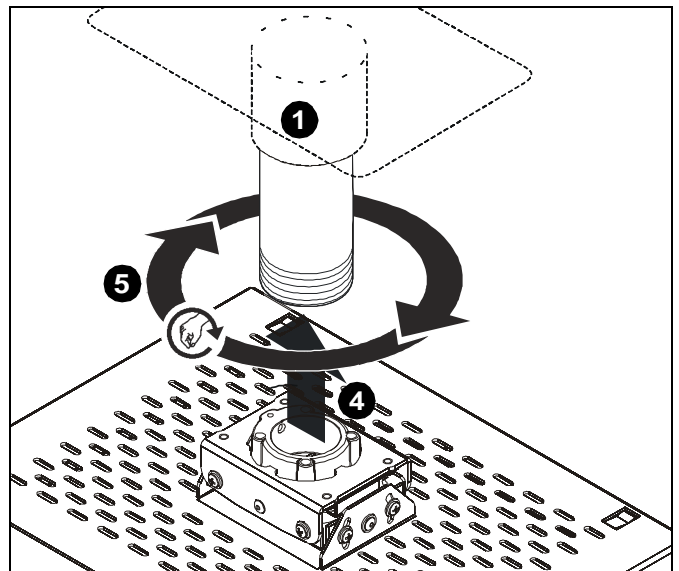

Figure 3
4. Align RPAX1 outer sleeve with end of NTP pipe. (See Figure 3)
5. Thread RPAX1 sleeve up onto pipe by turning clockwise until hand tight. (See Figure 3)